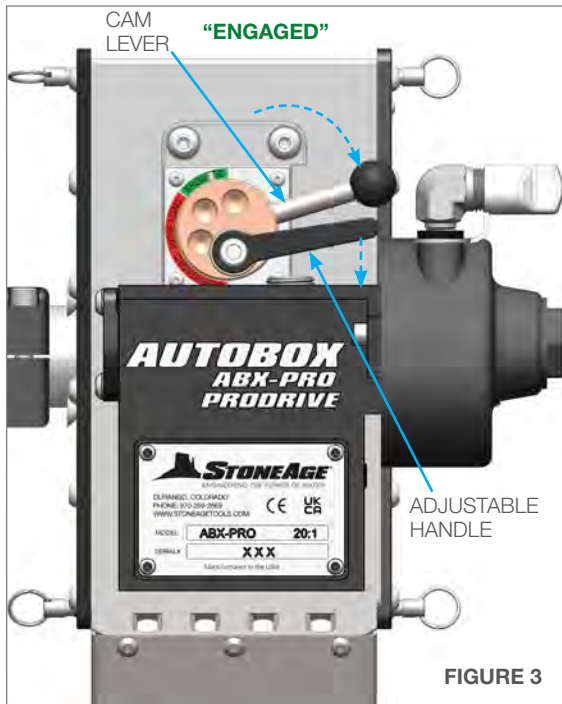

FIGURE 3
3. Loosen the screws on both collet cap blocks. Slide the BOP 030 Collet Block Assembly onto the guide tube on the ABX-PRO and tighten the two screws until secure. Slide the BOP 081-6 Snout Tube into the BOP 030 Collet Block Assembly. Push the Snout Tube in until it stops, then tighten the two until secure. **(Figure 3)**
- Insert the BOP 058 Female Positioner Assembly into the Hinge Clamp Assembly then close the Hinge Clamp Assembly and tighten the Adjustable Handle. The Female Positioner height can be adjusted in the open or closed position and is designed to be adjustable based on the size of the pipe. **(Figure 3)**
3. Rotate the Cam Lever clockwise to the **“Engaged”** position to tighten the Idler Roller down onto the hose. There should be a slow slip on the hose. If the slip is too tight or loose, move the Eccentric Lever off until a slow slip is obtained. Once the slip level is achieved, push down on the Adjustable Handle to tighten the bushing assembly. **(Figure 3)**
3. Loosening the Cam Lever opens up the space between the Spline Roller Assemblies. **(Figure 3)**